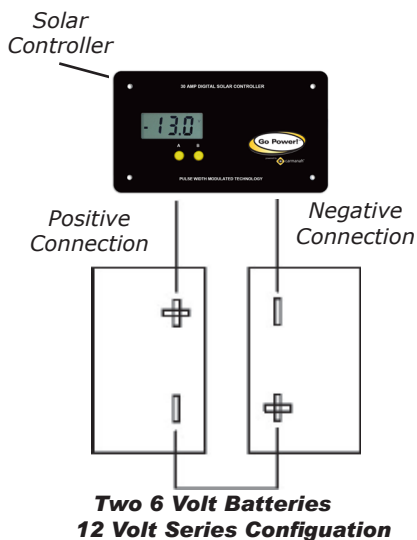

Figure 7
3. 6 Volt series battery connection (See Figure 7)